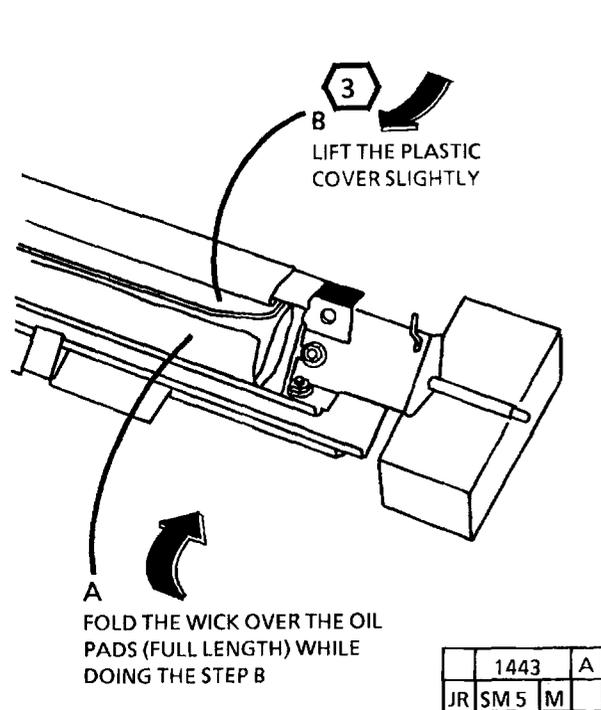

Figure 3. Insert the Wick Edge Under the Plastic Cover
2. (FIGURE 3): INSERT THE WICK EDGE UNDER THE PLASTIC COVER.